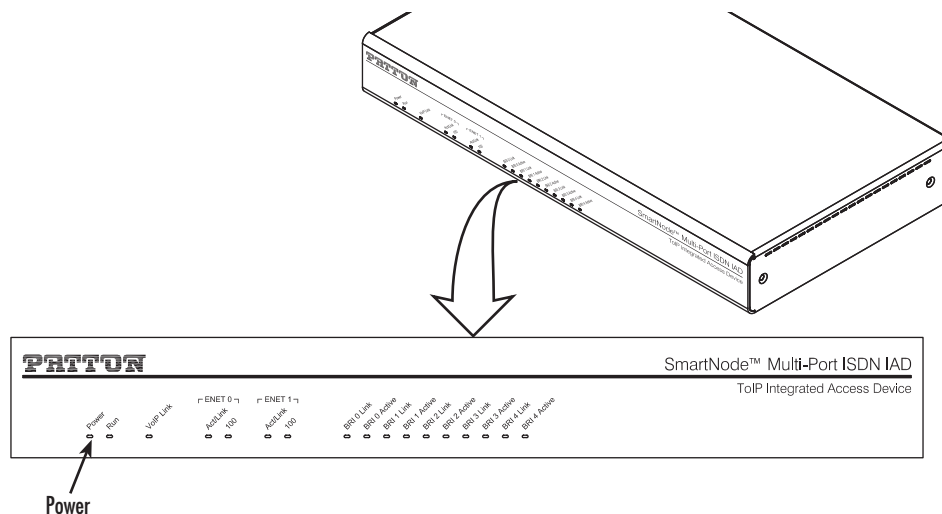

Figure 6. Power LED (SmartNode 4638 shown)
4. Verify that the green *Power* LED is lit (see figure 6).